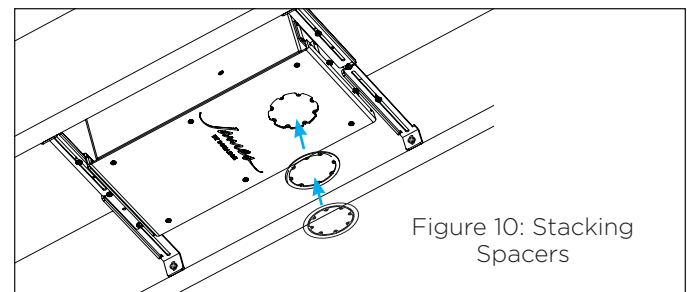

Figure 10: Stacking Spacers
4. All trims accommodate 0.5" (12.7mm) surface thickness. If the surface exceeds 0.5" thickness, install the appropriate spacers between the trim kit and enclosure to accommodate the surface depth. James SA3 Spacers are available in 1/8" (3.2mm) and 3/8" (9.5mm) and can be stacked as required to achieve the correct depth of the trim to the surface (SA3-SP-0.125 and SA3-SP-0.375). Spacers can also be custom made to accommodate up to 6" (152mm) of surface thickness (see Figure 10).